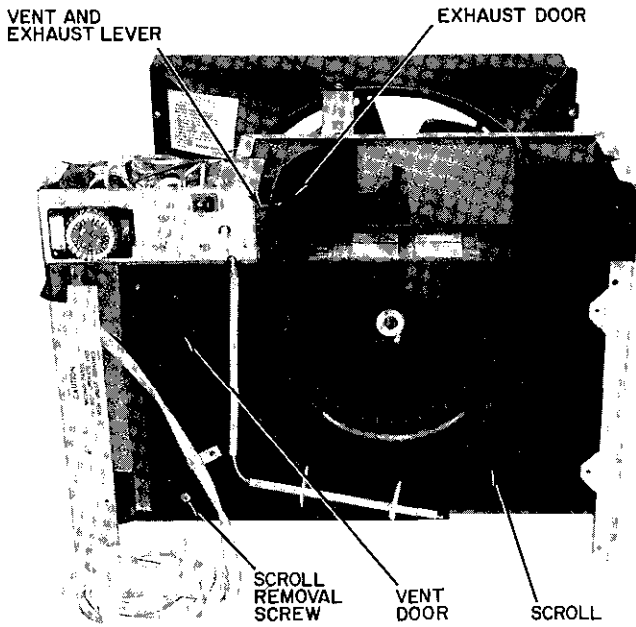

Fig 20 — Evaporator Scroll
- i Remove screw which holds the evaporator scroll to the partition. See Fig. 20
- 17 **Exhaust Door** — See Exhaust Door in Fig 20
- 18 **Vent Door** — See Vent Door in Fig 20
- 19 **Vent and Exhaust Lever** — See Vent and Exhaust Lever in Fig 20